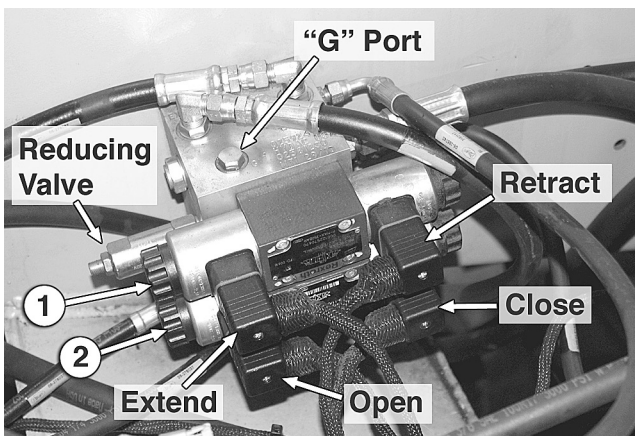

Figure 15. Right Gate Solenoid
4. To insure that the gates are fully closed, swap the connectors on the open and close solenoid valve (**Figure 15**) and restart the engine. Depress the gate override button which will fully close the gates. While holding the override button down, shut the engine off. There should be 1/16" between each gate and its spread roll.